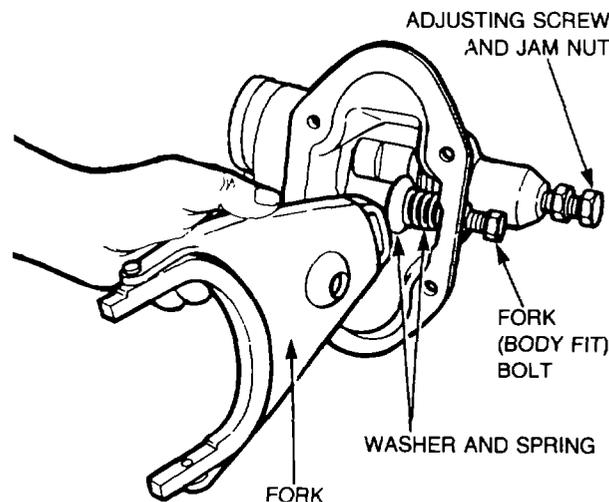

Figure 201 — Selector Fork Removal
- d. Remove the split pin, castellated nut and half-round washer from the selector fork pivot bolt, and remove the selector fork, spring seat, spring and bolt from the air shift housing (see Fig. 201).